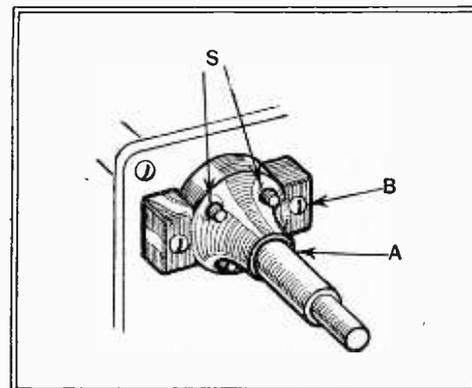

Fig. 2.—Self-contained vernier control. A=main spindle; B=mounting bolts; S=projecting screws.
(1) Lack of oil ...	Obvious.
(2) Slide sticking ...	Rub down guide with fine emery.
(3) Spring too strong	Mark pointer-setting at bottom of scale, stretch spring, then readjust pointer to mark.
(4) Pulley or bearing seized.	Apply penetrating oil and ease backwards and forwards.
(5) Vernier too slack	Adjust if possible (see below).
(6) Vernier incorrectly adjusted	Adjust mounting bolts (B in Fig. 2).
(7) Pointer fouling scale ...	Obvious.
Fig. 2 illustrates one type of self-contained vernier in fairly common use, bolted directly on to a gang condenser. The mechanism is entirely enclosed, the only adjustment being by four screws
A *rough* drive, if not due to any of the previously mentioned faults, may often be cured by putting a spot of oil on the main spindle (A in Fig. 2) so that it runs in between it and the hollow aluminium housing.